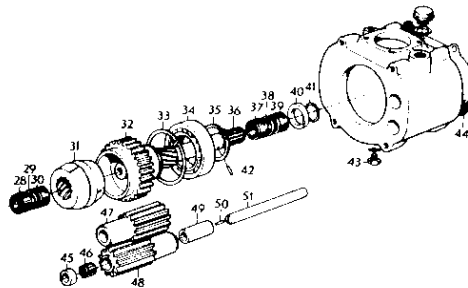

Fig. 4
2. Pull out the shaft (36, see Fig. 4). NOTE! Keep an eye on the needle bearings (28 and 30) as well as the spacer washer (29).
1. Remove the pieces of tape over the shaft ends and press out the shafts (51) of the planetary gears (47 and 48, see Fig. 4). Remove the bearings (46) and the spacer sleeves (49).
2. Inspect all the bearings, bushings and gear wheels in the intermediate housing. If the gear wheels (32, 47 and 48) or the bearing (34) have to be replaced, carry out work operations 4–8 below. Since the bearing (34) is always exposed to lop-sided loading when being disassembled, it should be scrapped and replaced by a new one.
3. Re-fit in position the shafts (51) of the planetary gears, spacer sleeves (49), the bearing (46) and the bushings (45).
4. Remove the circlip (35).
5. Press out the gear wheel (32) with the help of drift 884263. Make sure that the teeth on the gear wheel fall into the teeth openings in the planetary gears.
6. Remove the circlip (33).
7. Tap out the bearing (34) with drift 884168.